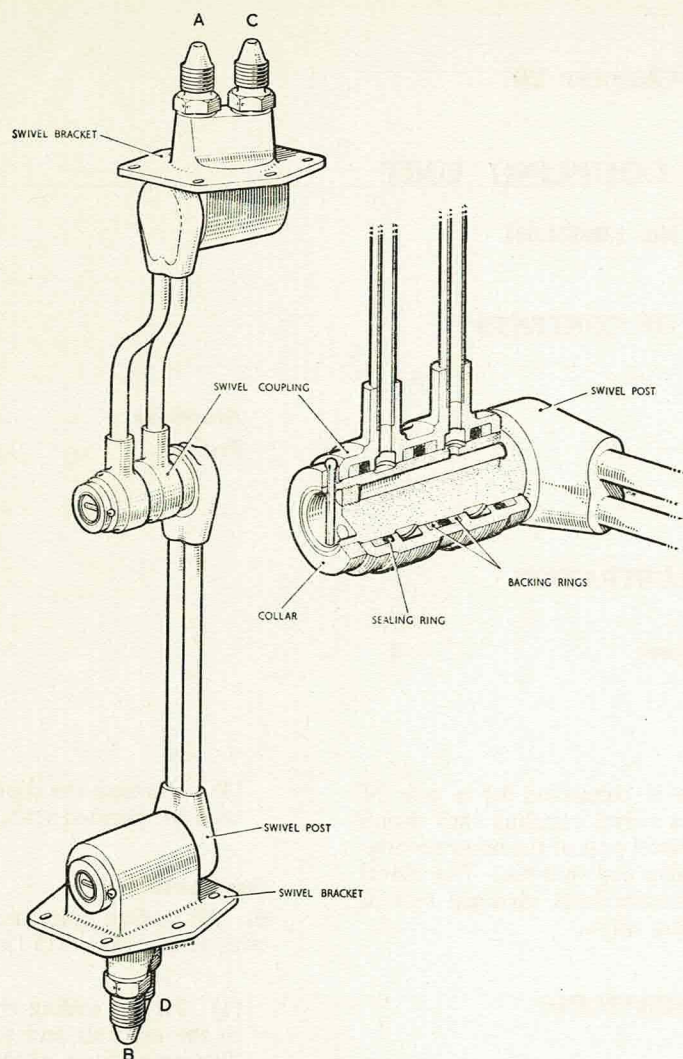

Fig. 1. Swivel coupling unit
(1) Referring to *fig. 1*, connect the test rig supply line to connections A and C in turn and apply pressure. A free flow of fluid must be possible from A to B and from C to D.
(2) Blank off connections B and D. With the test rig supply line connected to A and the unit in the static condition, gradually apply pressure in stages up to 1,800 lb/in². Leakage is not permissible. Release the pressure.
(3) Transfer the supply line to connection C and gradually apply pressure in stages up to 1,800 lb/in². Leakage is not permissible. Release the pressure.
(4) Apply a pressure of 100 lb/in². Move each swivel joint separately through an angle of 180 deg. and back ten times, then rotate each joint separately through 360 deg. ten times, five times clockwise and five times anti-clockwise. Leakage is not permissible.
(5) Increase the pressure to 1,200 lb/in². Repeat the swivel joint movements as in (4). Leakage is not permissible. Check the torque required to move each joint. This must not exceed 25 lb. in. at this operating pressure.
(6) Release the pressure and transfer the supply line to connection A. Repeat the tests in (4) and (5).
(7) Release the pressure, disconnect the supply line and remove the blanking caps.